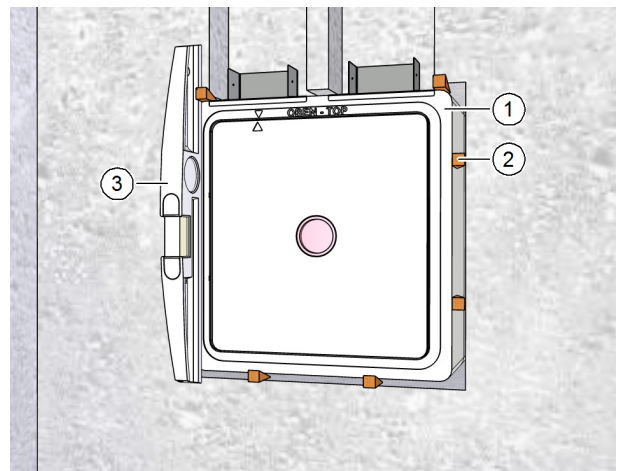

Fig. 14: Fixing the wall box
- ▶ Fix the wall box (item 1 in Fig. 14) in position in the wall breakthrough using wedges (item 2 in Fig. 14).
- ▶ Use the spirit level (item 3 in Fig. 14) to align the wall box so that it is perpendicular and flush with the wall.